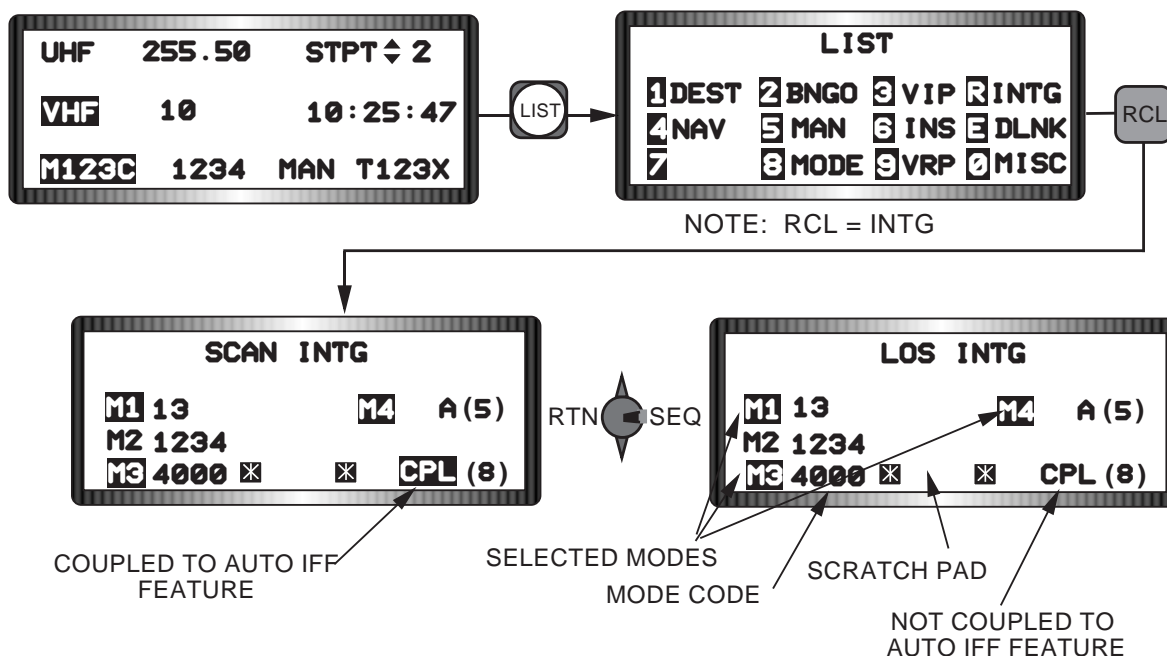

Figure 1-53 Interrogator DED Pages
**Interrogator DED Pages.** Two separate Interrogator (INTG) DED pages, SCAN INTG and LOS INTG, provide the pilot with control of interrogator modes and codes. The pages are accessed from the LIST DED page as shown in Figure 1-53. Interrogation modes can be selected or deselected by accessing the appropriate INTG page. Interrogator codes are not DTC loadable. As a result the initial power-up interrogator codes will be the same codes as the transponder until the pilot manually changes them. Once changed, the interrogator codes become independent of the transponder codes. Interrogator codes are manually entered/modified using the same procedures as transponder code entries. The CPL mnemonic located on the lower right portion of both INTG pages, couples interrogator modes and codes to the AUTO IFF transponder mechanization. When CPL is highlighted, interrogator modes and codes will be the same as the transponder mode/code changes initiated by the Auto POS and/or TIM mechanizations.